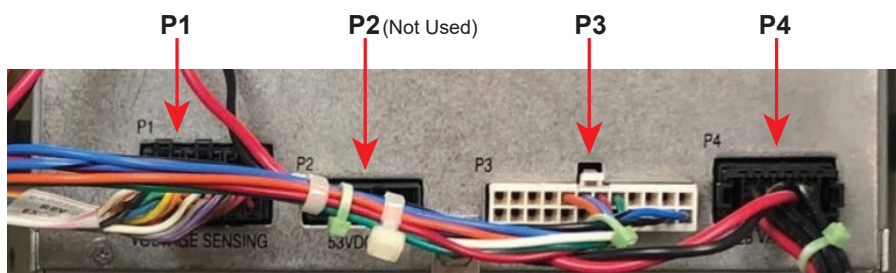

Figure 4 Verification of Control Compatibility with M-2406
The M-2406 Adapter Chassis is compatible with Eaton Cooper Form 6 Type F6-P2A and F6-P2B controls with serial numbers above 10,000 or beginning with CP57. Compatibility can be visually verified by examining the back of the Form 6 control. If the control has **P1**, **P2**, **P3** and **P4** connectors (Figure 4), then the M-2406 Adapter Chassis is able to be installed in the Eaton Cooper Form 6 control cabinet.
4. Disconnect **P1**, **P3** and **P4** wire harnesses from the back of the Eaton Cooper Form 6 control panel (Figure 4). Gently press down on the wire harness connector tabs to remove them from the plugs.